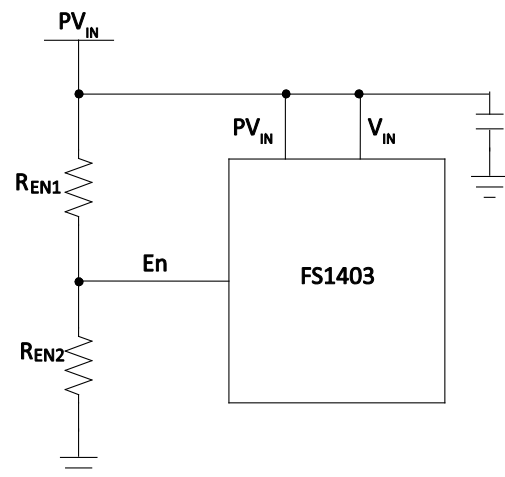

Figure 5 Single supply configuration: internal LDO regulator, adjustable PV_{IN_UVLO}
The FS1403 has an integrated Low Drop-Out (LDO) regulator, providing the DC bias voltage for the internal circuitry. The typical LDO regulator output voltage is 5.2V. The V_{IN} pin should be connected to the PV_{IN} pin (Figure 5).
- It can be used to implement a precise input voltage UVLO. The input of the En pin is derived from the PV_{IN} voltage by a set of resistive dividers, R_{EN1} and R_{EN2} (Figure 5). Users can program the UVLO threshold voltage by selecting different ratios. This is a useful feature that stops the FS1403 regulating when PV_{IN} is lower than the desired voltage.